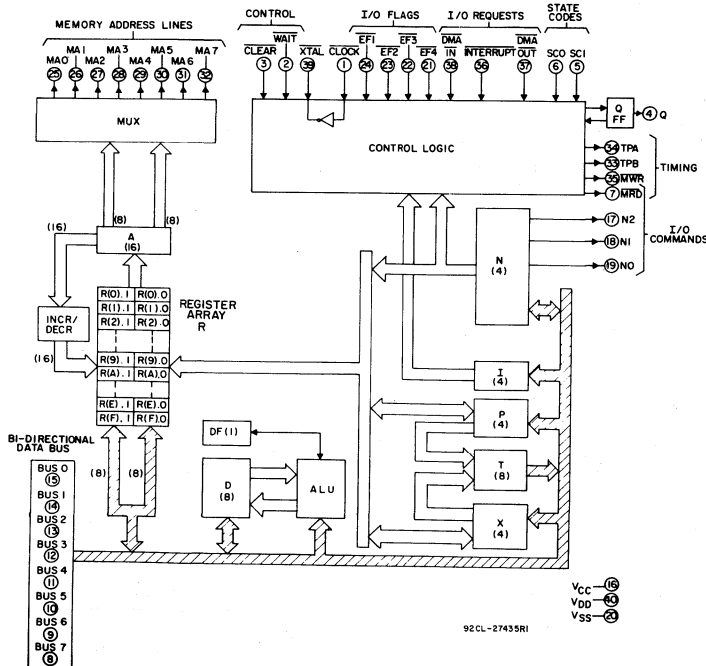

Fig. 5—CDP1802 block diagram.
The COSMAC block diagram is shown in Fig. 5. The principal feature of this system is a register array (R) consisting of sixteen 16-bit scratchpad registers. Individual registers in the array (R) are designated (selected) by a 4-bit binary code from one of the 4-bit registers labeled N, P, and X. The contents of any register can be directed to any one of the following three paths: